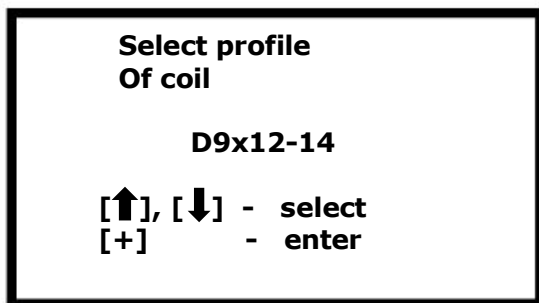

Fig. 13
- **To choose Select Coil.** By button pressing [**+**] the select profile of coil menu appears (a Fig. 13).